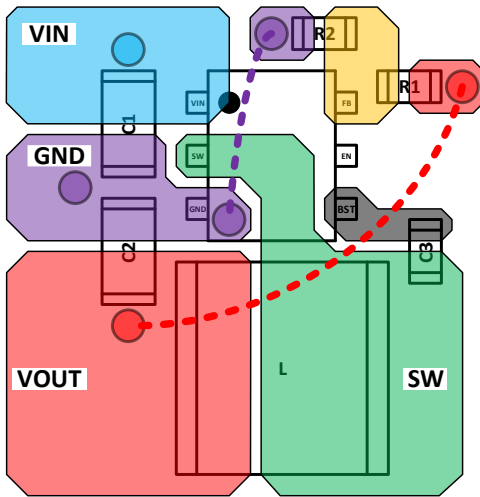

Figure 42. Recommended PCB Layout, SOT563 (Standard)
9. See Figure 42 and Figure 43 for more details.